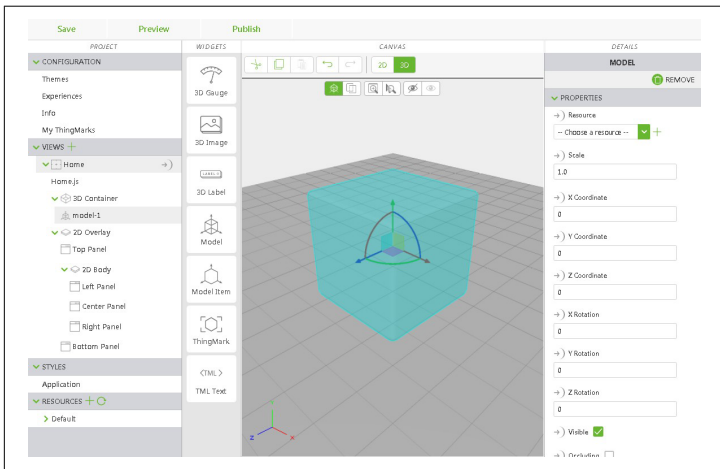

Figure 3-4. Dragging and dropping a Model widget
1. Drag and drop a Model widget onto the central canvas (see Figure 3-4). Now we need to specify which model to display.